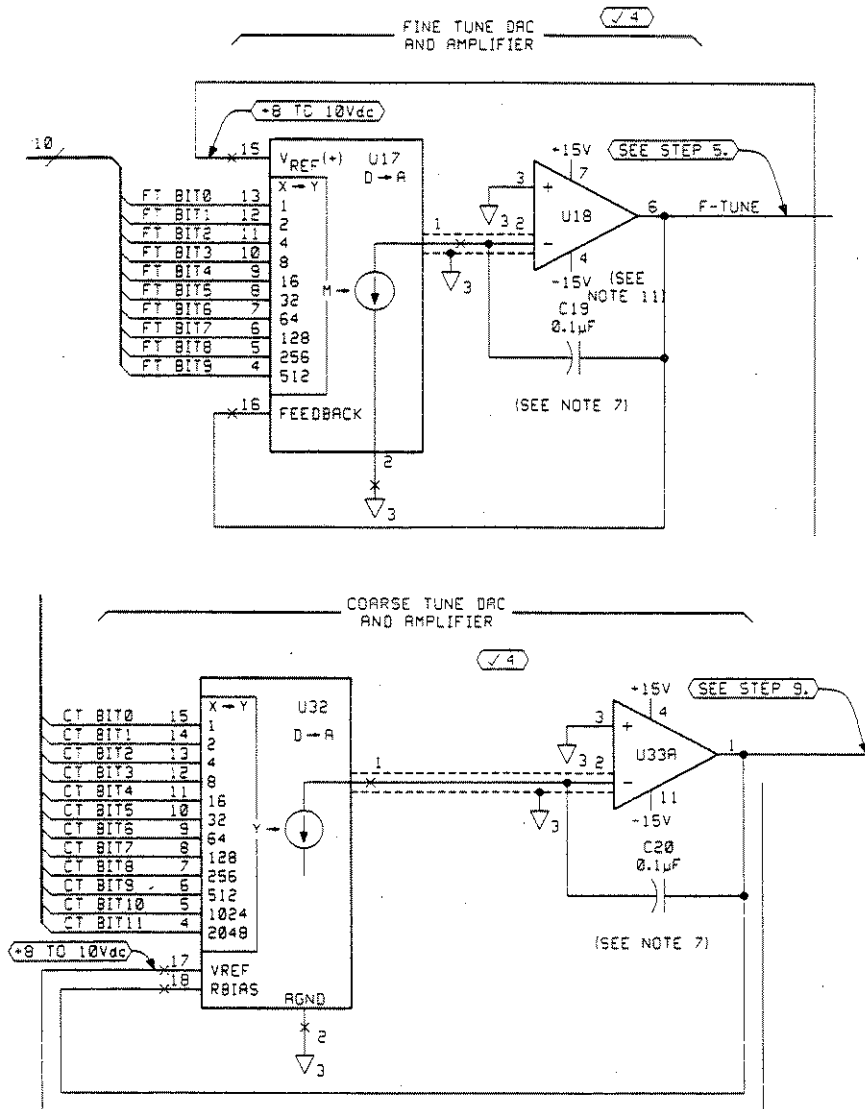

Figure 8-43. Fine Tune DAC and Coarse Tune DAC Voltages
- Measure the reference voltage ( $V_{ref}$ ) at A13U17 pin 15 to A13TP8 (1ST LO GND). See Figure 8-43.  $V_{ref}$  should be between 8 and 10 Vdc. For three settings, full scale, half scale and zero, the DAC voltage is shown in
8. Note the reference voltage ( $V_{ref}$ ) at A13U32 pin 17 (8 to 10 Vdc). See Figure 8-43. For three settings, full scale, half scale and zero, the DAC voltages are shown in Table 8-40 as they relate to  $V_{ref}$ . Using the procedure in step 9, check the three settings of the Coarse Tune DAC.